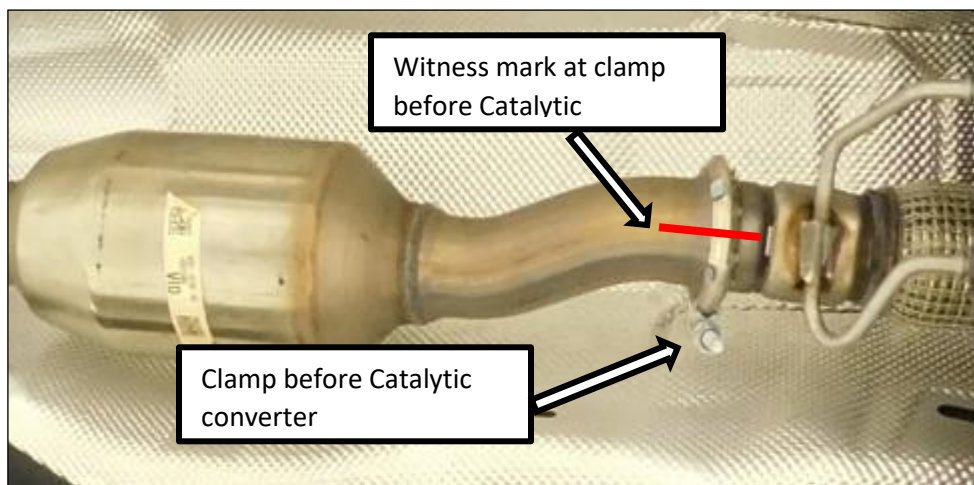

Figure 1
2. Make a witness line across the clamp connection just before the catalytic converter (**see Fig. 1**). Start the witness line on the pipe before the clamp and extend over the clamp onto the pipe on the opposite side of the clamp.
9. Reinstall the catalytic converter and clamp, align the witness marks made in step two **Fig. 1** to ensure proper alignment. Tighten the clamp and support the catalytic converter to avoid damaging the flex section.